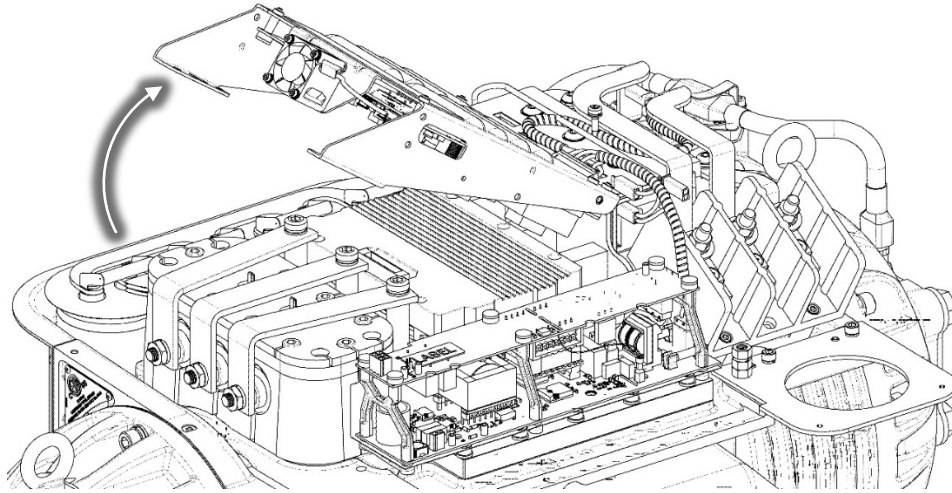

Figure 3 – Soft Start Lift
- Lift the Soft Start and turn it over, placing it board-side up on the AC Bus Bars. Refer to Figure 3 (Soft Start Lift).